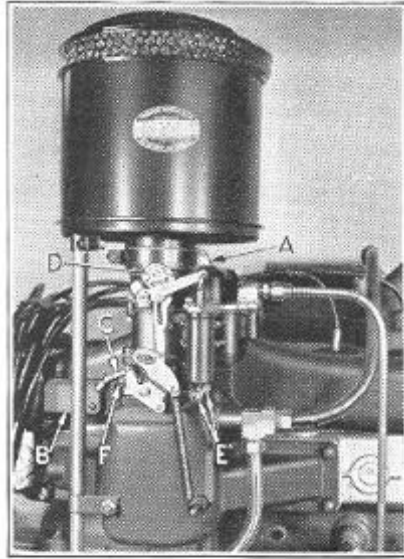

Figure 40
The automatic choke valve is operated by a thermostatic coil spring contained in an insulated housing (A), Figure 40, which is controlled by hot air drawn off the exhaust manifold through stove (B) and tube (C) which lead to the insulated housing.